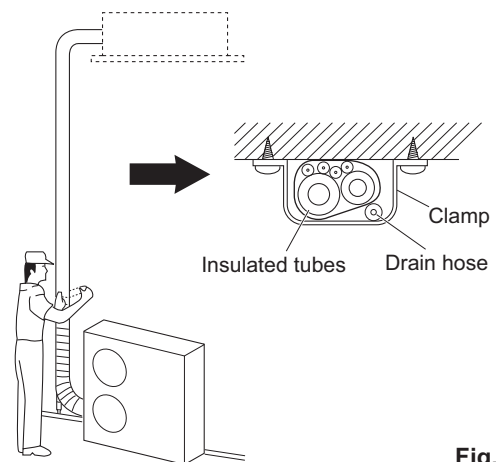

Fig. 2-286
- (1) At this time, the refrigerant tubes (and electrical wiring if local codes permit) should be taped together with armoring tape in 1 bundle. To prevent the condensation from overflowing the drain pan, keep the drain hose separate from the refrigerant tubing.
- (2) Wrap the armoring tape from the bottom of the outdoor unit to the top of the tubing where it enters the wall. As you wrap the tubing, overlap half of each previous tape turn.
- (3) Clamp the tubing bundle to the wall, using 1 clamp approx. each meter. (Fig. 2-286)